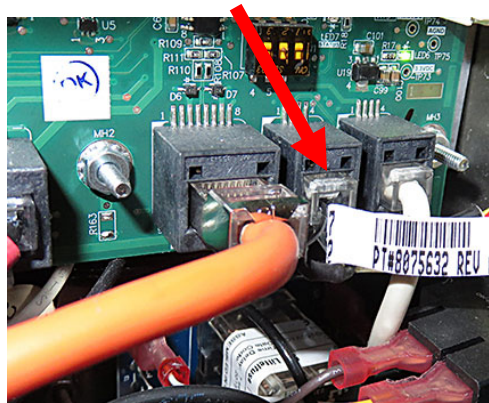

Figure 12
16. Follow the orange cable from the touch screen controller to the bottom right of the SIB circuit board. Directly right of the orange cable connection, is a RJ11 terminator (see Figure 12).